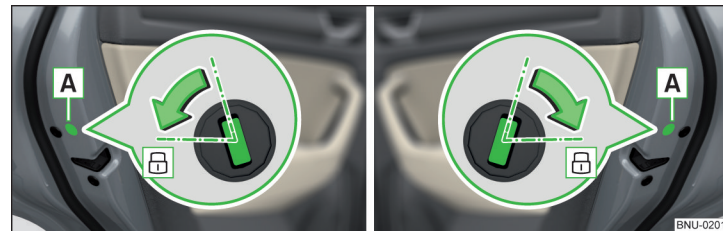

Fig. 349 Left door/right door:
- › In vehicles with the panel [A], remove this panel » Fig. 349.